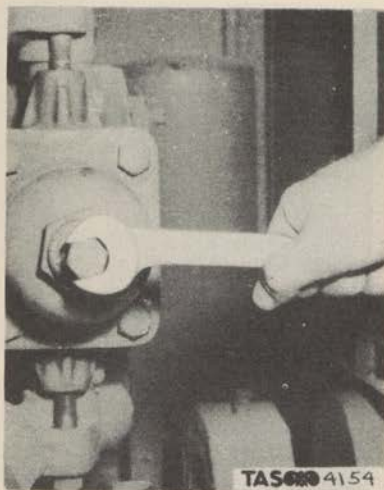
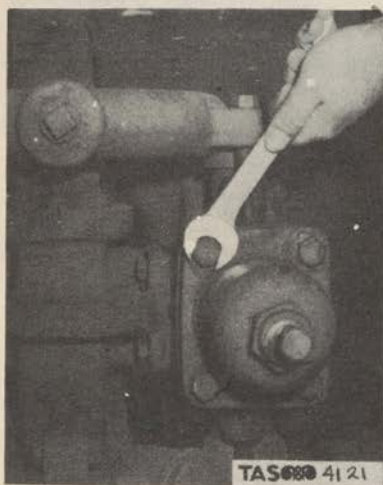
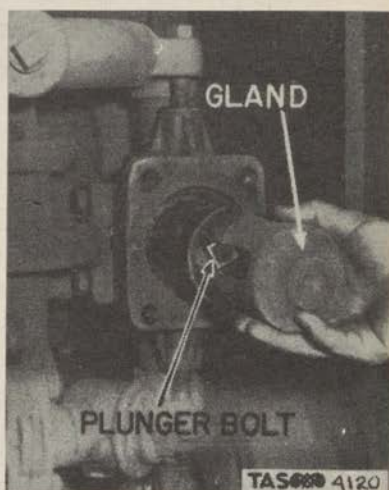

Figure 180. Adjusting
Figure 185. Removing
Figure 186. Removing
(16) Drain the two spray hose and guns by uncoiling the hose and opening the spray gun valves.
(17) Check and tightly replace all drain plugs.
21. ADJUSTMENTS. a. Plunger packing. After proper initial adjustment, packing requires no further adjustment during its normal life. Packing adjustment is made by turning the adjusting screw clockwise (fig. 180), which moves the packing gland into the pump cylinder and compresses the packing. The screw should be turned only enough to bring the packing gland
22. REMOVAL AND REPLACEMENT OF PARTS. a. Dismantling and reassembly of a cylinder. (1) Dismantling. Loosen the packing adjusting screw (fig. 180) and remove the screws holding the cylinder cup. (Fig. 185) The cylinder cup and gland may then be removed. (Fig. 186) Next, rotate the pump drive